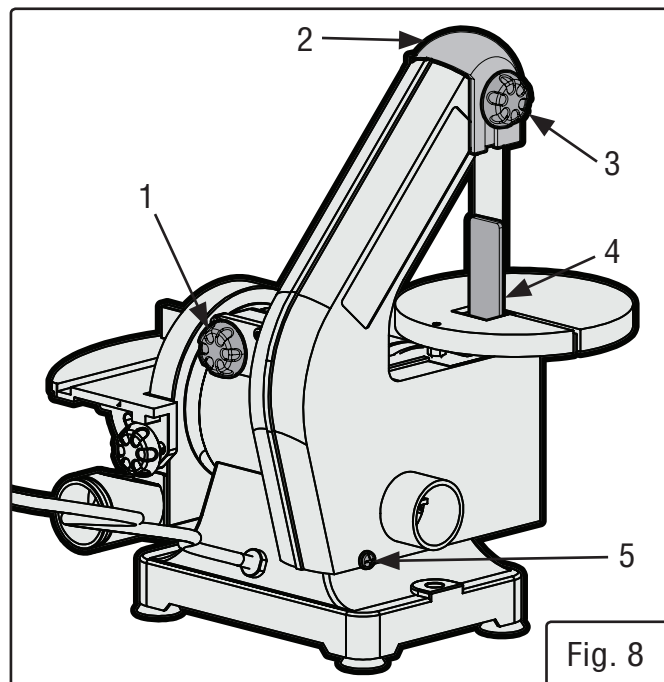
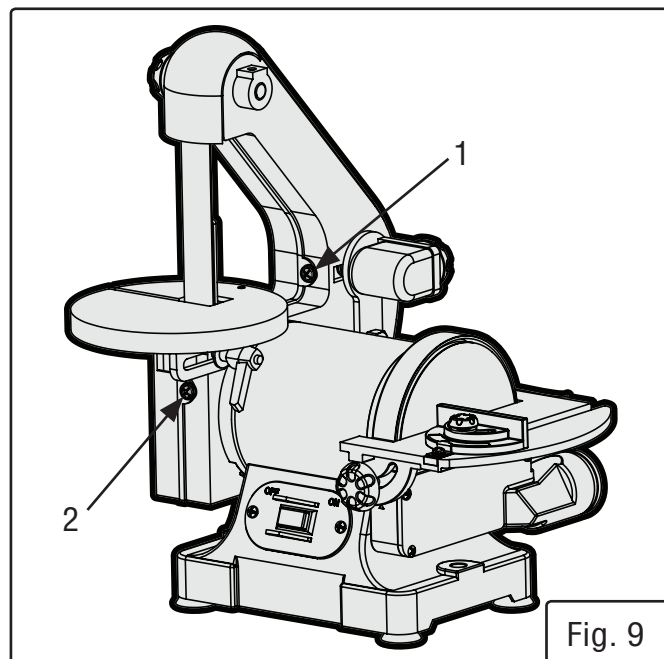

Fig. 8
Fig. 9
Install the upper guard (Fig. 8 - 2) onto the belt sanding arm using the upper guard locking knob (Fig. 8 - 3) to secure it in place.
Belt tracking means adjusting the belt to ride in the center of the rollers so that it runs true (does not wander left or right during operation). The sander is equipped with a belt tracking adjustment knob (Fig. 8 - 1).
1. Remove the upper guard locking knob (Fig. 8 - 3) and the upper guard (Fig. 8 - 2).
2. While holding the side cover in place, remove the three screws and washers holding the cover in place (Fig. 8 - 5, Fig. 9 - 1 & 2). Remove the side cover.
3. Rotate the sanding disc with your hand. This causes the belt to slowly rotate. Watch to see if it starts to move left or right (toward or away from the body of the sander). If the belt wanders from the belt rollers, use the belt tracking adjustment knob (Fig. 8 - 1) to adjust the angle of the rollers. Keep rotating the disc with one hand while turning the belt tracking knob until the belt rides in the center of the rollers.
The platen (p. 13, Fig. 8 - 4) is the steel support plate that is positioned behind the sanding belt and underneath the sanding belt table. It rises from the body of the sander to a point several inches above the belt table's surface. The platen provides the necessary support to the workpiece during sanding operations. It should be adjusted so that it is almost touching the back of the sanding belt.
3. While holding the side cover in place, remove the three screws and washers holding the cover in place (p. 13, Fig. 8 - 5, Fig. 9 - 1 & 2). Remove the side cover.